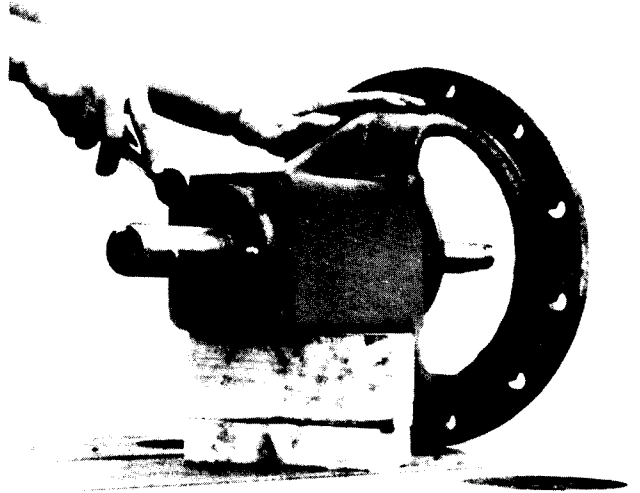

Fig. 15. Removing bearing cover, outboard end. (C-Frame shown)
- u. Remove bearing cover No. 35 and No. 37 (Fig. 15).